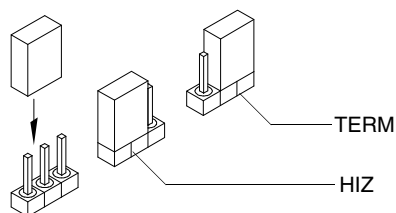

FIG. 3 Termination jumper pin settings for JP4 and JP5
1. Remove the jumper that is on pins 1 and 2 of jumper trios JP4 and JP5. (Pins 1 and 2 are marked HIZ - see FIG. 3).
2. Place the jumper on pins 2 and 3 of jumper trios JP4 and JP5. (Pins 2 and 3 are marked TERM -see FIG. 3). This terminates the incoming DMX input with a 120 ohm resistor.